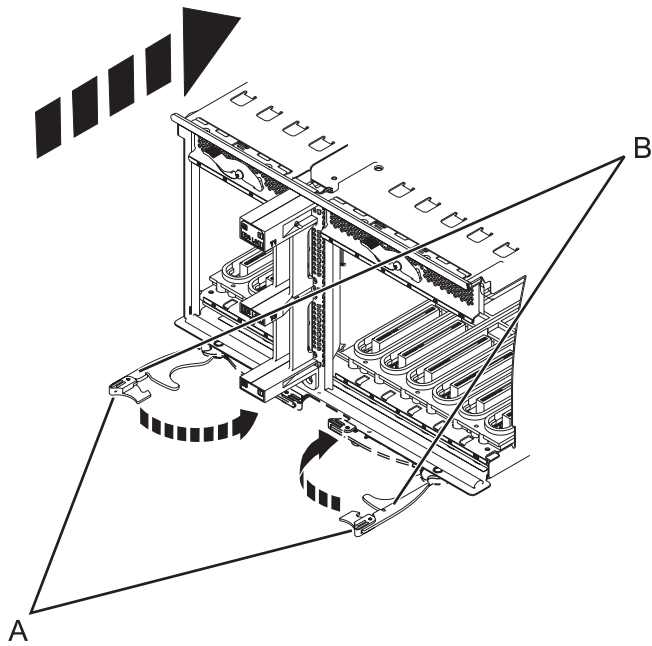

Figure 91. Install the I/O system board on a rack-mounted model
9. Insert the I/O system board firmly into the server, as shown in Figure 91 on page 123.
10. Secure the I/O system board with the locking tabs (A), as shown in Figure 91 on page 123.